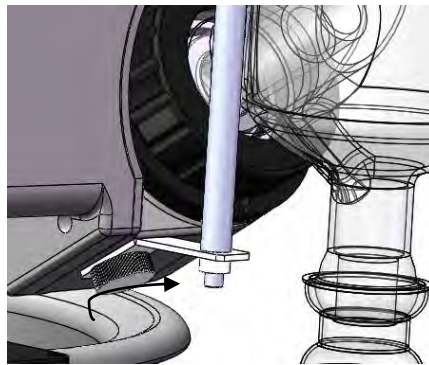

**Fig. 6**
- Mount the condenser (f) (Fig. 6 and Fig. 7)